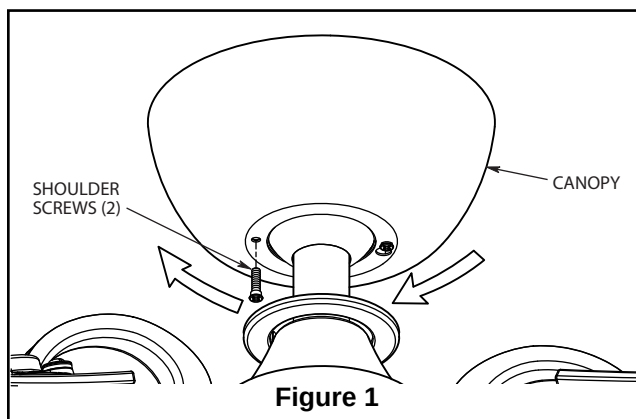

Figure 1
- ☐ 1. Remove one of the two shoulder screws in the hanger bracket. Loosen the second shoulder screw without fully removing it. Assemble canopy by rotating key slot in canopy over shoulder screw in hanger bracket. Tighten shoulder screw. Fully assemble and tighten second shoulder screw that was previously removed (Figure 1).
- ☐ 1. Remove the blade bushing cover (Figure 1).